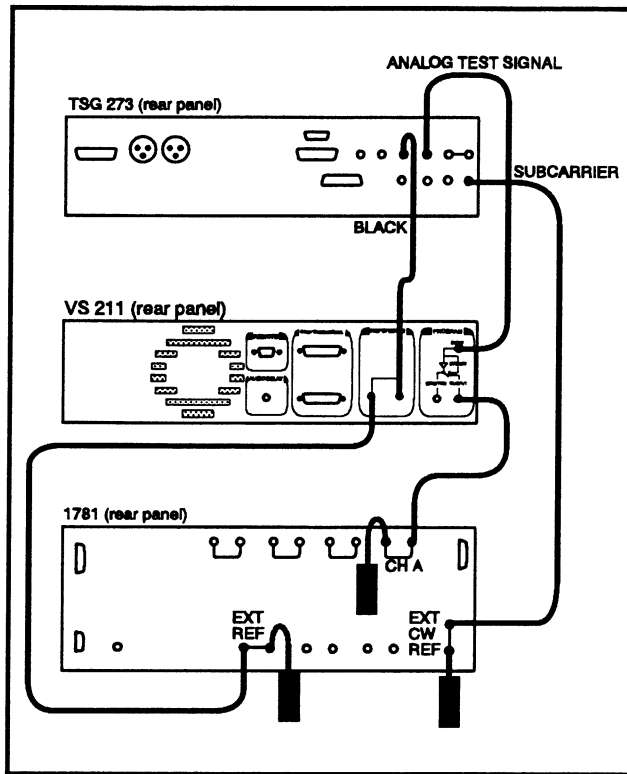

Fig. 4-8.
to the PROGRAM INPUT. Connect the PROGRAM OUTPUT to the channel A input of the vectorscope/waveform monitor and terminate the loop-through in 75Ω . As shown in Fig. 4-8.
- a. Drive the VS 211 REFERENCE LOOP-THROUGH with the Black Burst signal from the Analog Test Signal output of the TSG 273 generator. Loop the Black Burst signal to the PROGRAM INPUT. (See Fig. 4-8.)